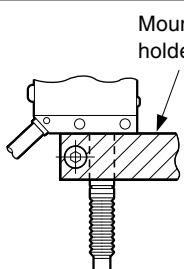

Fig. 3-1. Mounting the probe with a holder
- One way (Fig. 3-1) is to chuck the stem using the holder and the other (Fig. 3-2) is to fix the unit using the installation hole on the stem.